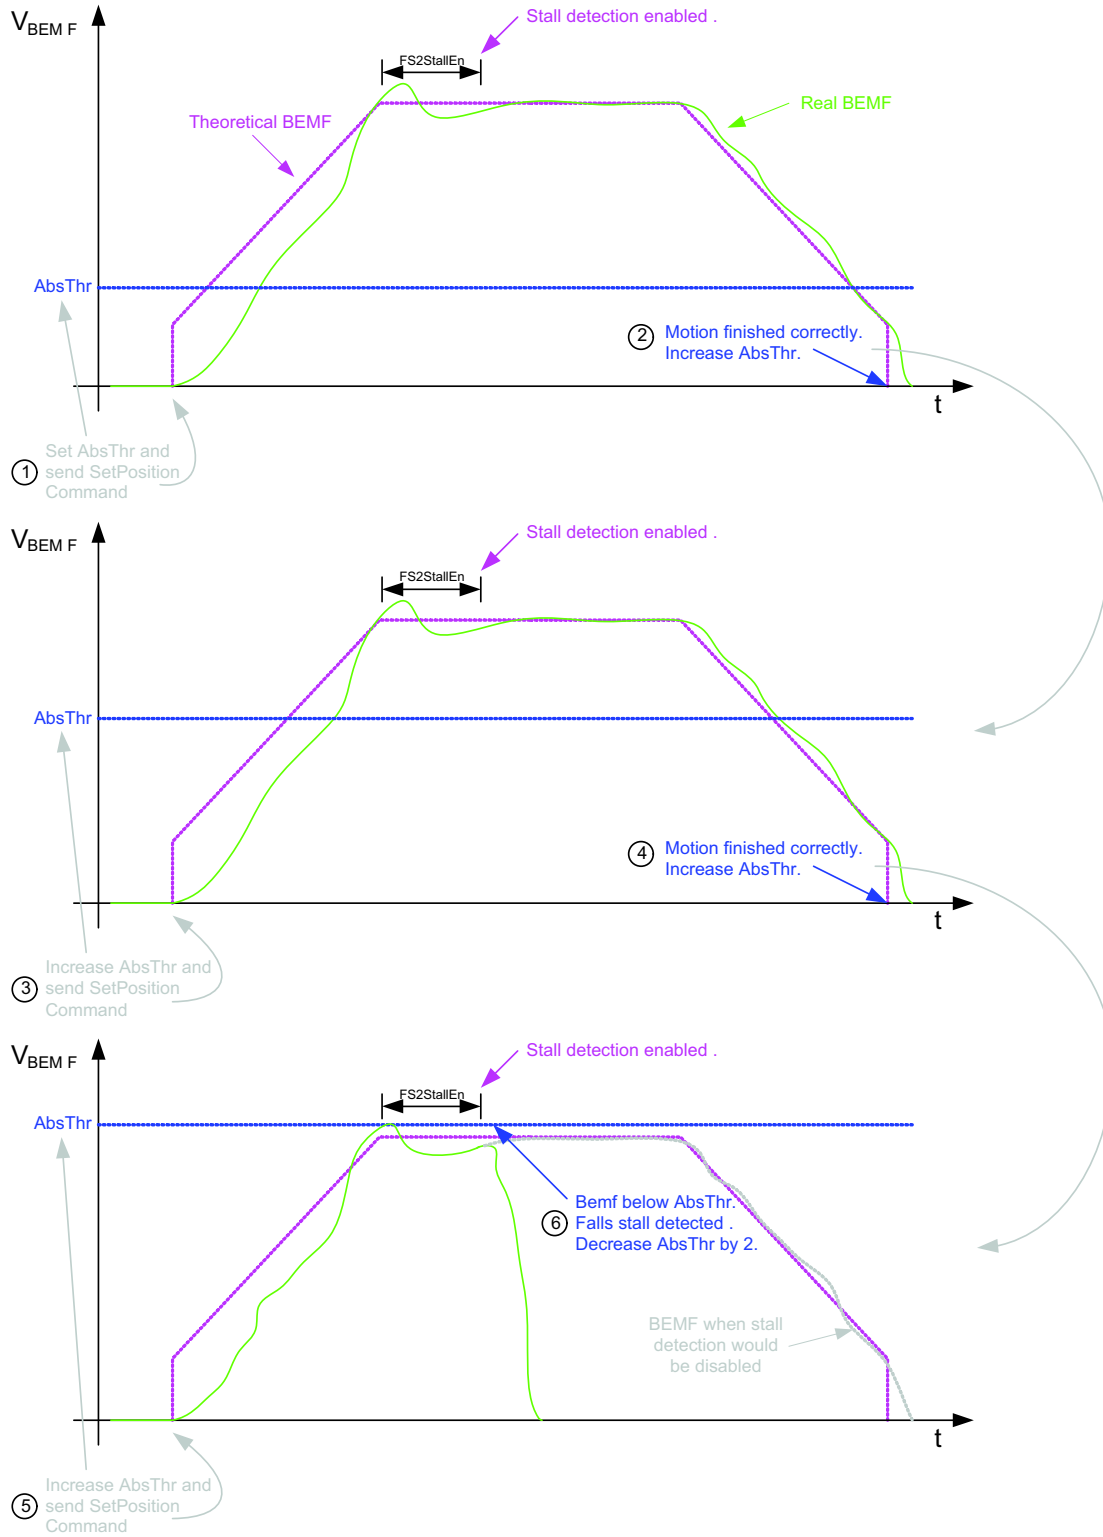

Figure 37. Define  $AbsThr$  for a Non-Free Running Motor (End Positions)
- Step 4b: Set the AbsThr to the lowest value (0.5 V) and do a SetPosition. If the motion was completed correctly, increase AbsThr by one and repeat the SetPosition. Do this until a stall was detected without hitting an end position (= falls stall). If falls stall is detected, the AbsThr value is set too high. Decrease the (hexadecimal) value by 2 (if possible) to have a good AbsThr setting. Figure 37 gives a better view on this.